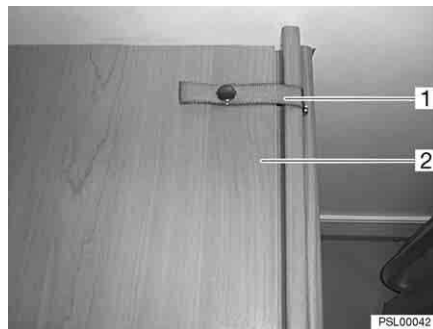

Fig. 68 Securing strap for the concertina wall
- Undo the securing strap (Fig. 68,1) of the concertina wall (Fig. 68,2) on the outside.